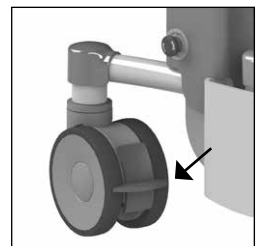

Figure 2 Directional wheel.
- The brake can be applied on the Tango XXL by pushing the gray lip on the wheel downwards (See figure 2).